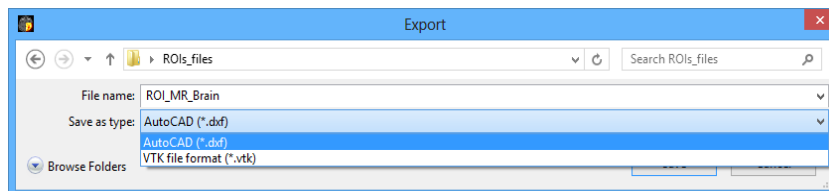

Figure 258 – Export dialog
2. Select the desired file format, the file name and the target folder in the displayed **Export** dialog (see Figure 258).